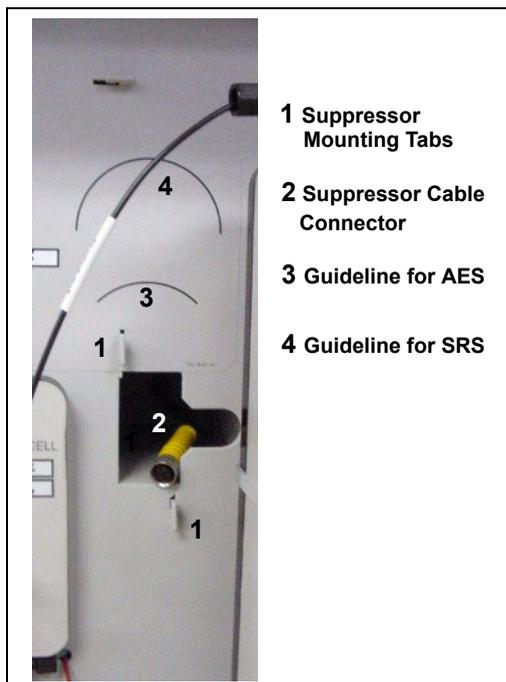

Figure 5-18. Suppressor Guidelines and Mounting Tabs on Component Panel
11. Align the top of the suppressor with the guide line printed on the component panel (see Figure 5-18) and align the slots on the rear of the suppressor with the tabs on the panel.